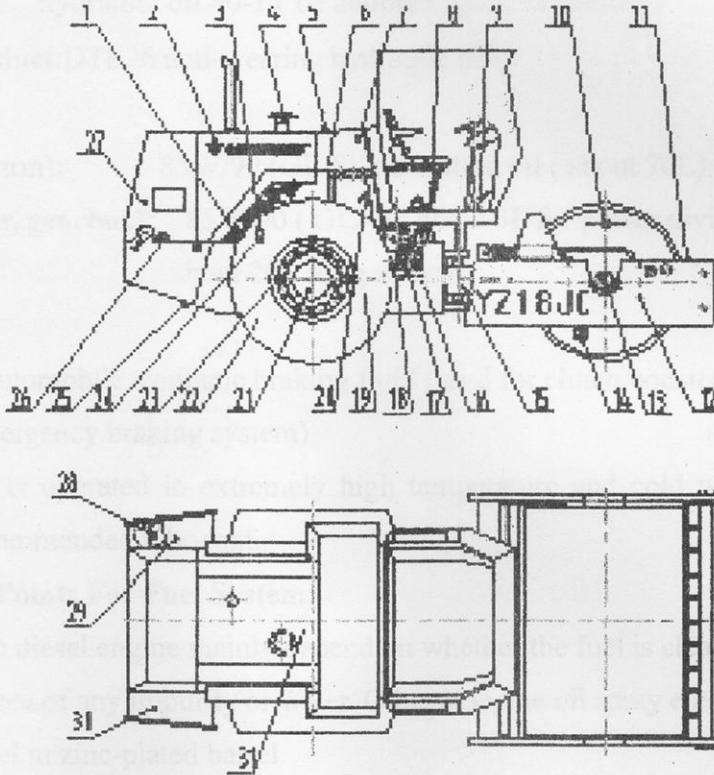

Fig. 14: Maintenance Checking Points
I. Inspection and maintenance points on roller as shown in Fig. 14.
- c. If the actual oil-level close to or lower than the mark on the rod, it should be refilled with engine oil. See Fig. 14 for the volume and method of refilling. When the oil level lower than the mark "L" (oil level low) or higher than the mark "H" on the rod (oil level high), it is not allowed to start the engine. It is allowed to check the oil level at least five minutes after the diesel engine being stopped, so as to make enough time for the engine oil to return to the oil pan. The difference between the high oil level to low level is 3.6L.